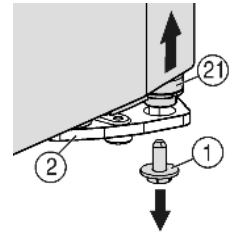
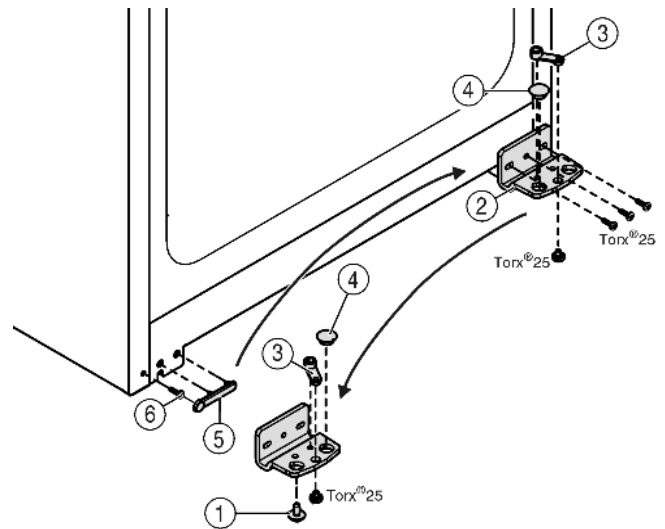

Fig. 4
Fig. 5
- ▶ The bearing pin Fig. 4 (21) should come out of the turn hinge Fig. 5 (2).
- ▶ If the bearing bolt Fig. 4 (21) doesn't undo press it out from underneath.
- ▶ Unscrew the turn hinge Fig. 5 (2).
- ▶ Unscrew the bearing element, Fig. 5 (3) transfer it to the opposite location hole of the turn hinge and screw it firmly into place.
- ▶ Take the stopper Fig. 5 (4) out of the turn hinge and transfer it to the receiving hole on the opposite side of the turn hinge.
- ▶ Carefully lift off the cover Fig. 5 (5) on the handle side.
- ▶ Undo the screw Fig. 5 (6) and transfer it to the opposite side.
- ▶ Put the cover Fig. 5 (5) back on.
- ▶ Screw the turn hinge Fig. 5 (2) firmly into place on the new hinge side (**with 4 Nm**), possibly using a power screwdriver.
- ▶ Insert the securing screw *Fig. 4 (1)* at the bottom into the bearing pin and tighten it (**with 4 Nm**).